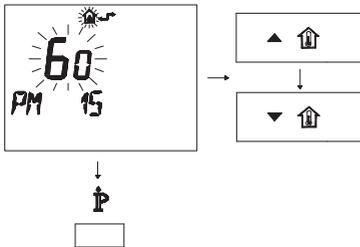

Fig. 7.17
- Modify the programmed SET by acting on buttons ▲  or ▼  until a **setting of 60** is displayed, wait for the number programmed to flash (Fig. 7.17).